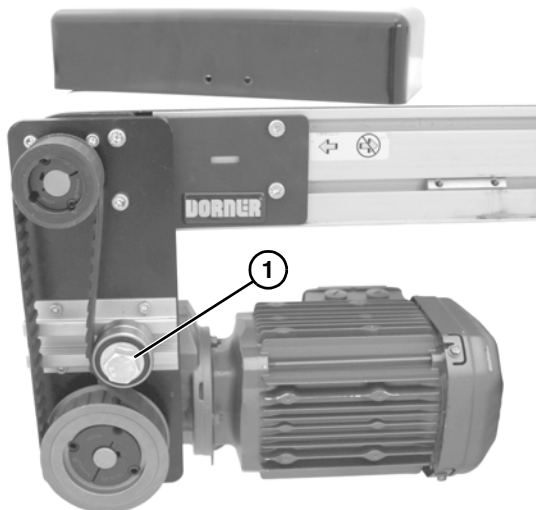

Figure 19
2. Loosen tensioner (**Figure 19, item 1**).